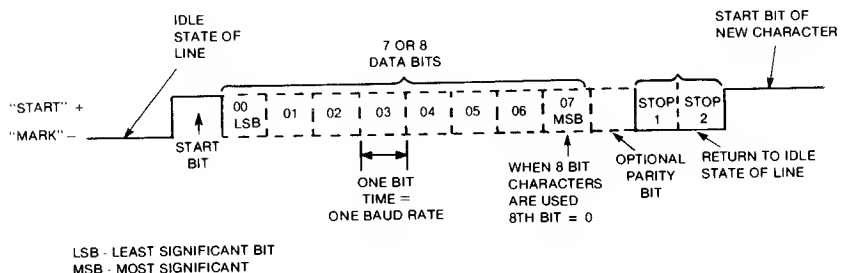

Figure 5-2. Serial Character Format
with each character. Each transmitted character consists of: a start bit, seven or eight data bits for the actual character, an optional parity bit for error checking, and one or two stop bits for proper timing. Figure 5-2 shows the format for serial characters. The selection of data bits per character and parity type is made via the Setup function (see Set 4 of the Status Line for the auxiliary port and Set 5 for the main port).
If eight-bit characters are selected, the last data bit is ignored and is forced to the space condition (0). Data bits are transmitted with the least significant bit first (labelled LSB in Figure 5-2).